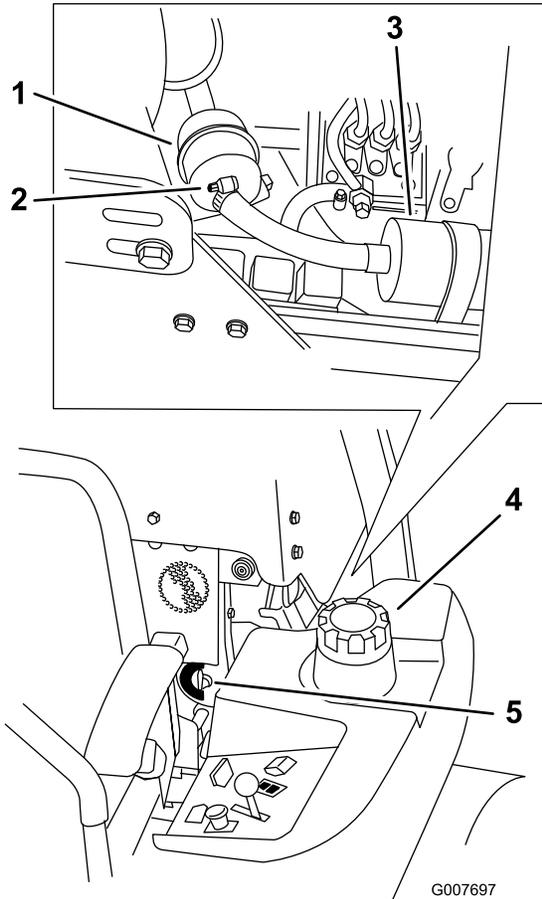

Figure 49
4. Close the fuel shut-off valve(Figure 49).
5. Loosen the two hose clamps and disconnect the fuel lines from the fuel filter (Figure 49).
6. Install a new filter. Connect the fuel lines to the fuel filter and install the two hose clamps (Figure 49).